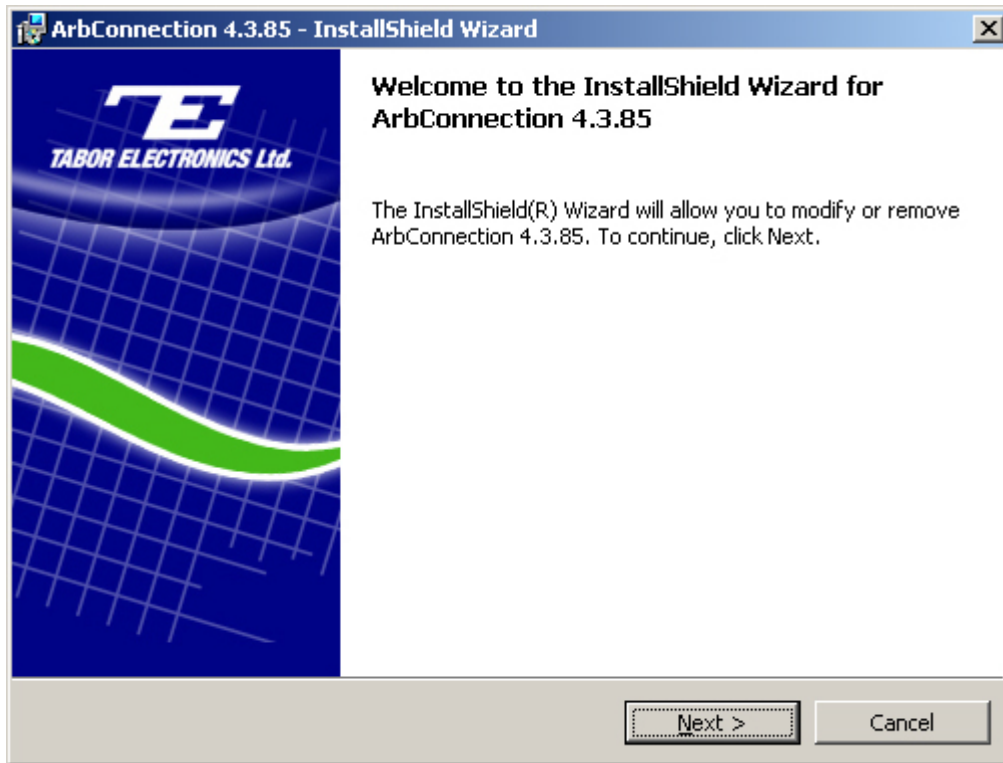

Figure 2-2: Installation Wizard Entry Screen
2. An Installation Wizard welcome screen will appear. Click “next” on the bottom of the screen to continue. (Figure 2-2)
3. Setup will then begin. Please wait while the Wizard is installed on your computer, as you can see in Figures 2-2 and 2-3.